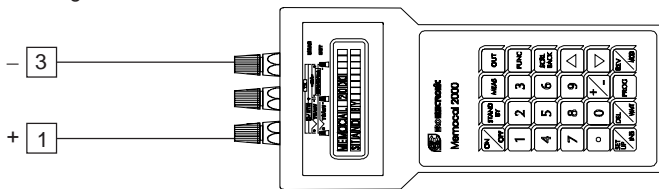

Fig. 6
- 2) Connect the instrument under test to the calibrator as shown in Fig. 6.